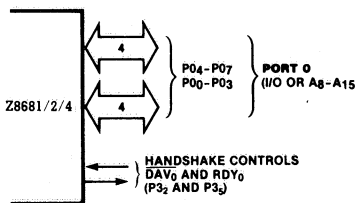

Figure 9. Port 0
**Port 0\*** can be programmed as a nibble I/O port, or as an address port for interfacing external memory (Figure 9). When used as an I/O port, Port 0 may be placed under handshake control. In this configuration, Port 3 lines  $P3_2$  and  $P3_5$  are used as the handshake controls  $DAV_0$  and  $RDY_0$ . Handshake signal assignment is dictated by the I/O direction of the upper nibble  $P0_4-P0_7$ .